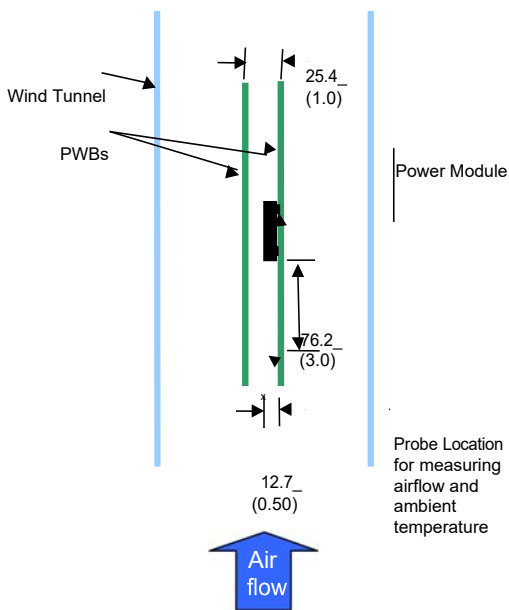
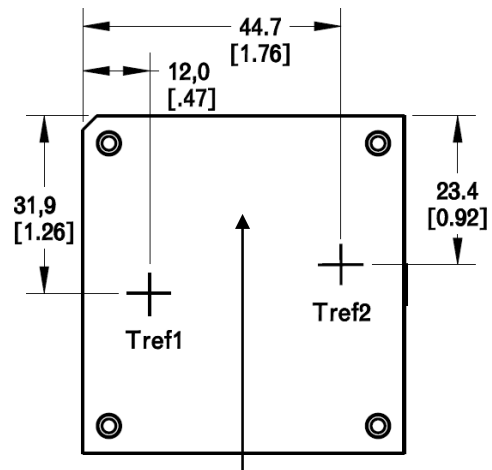

Figure 28. Thermal Test Setup.
Figure 29. Location of hot-spots of the module ( $T_{ref1}$  and  $T_{ref2}$ ).
Considerations include ambient temperature, airflow, module power dissipation, and the need for increased reliability. A reduction in the operating temperature of the module will result in an increase in reliability. The thermal data presented here is based on physical measurements taken in a wind tunnel. The test set-up is shown in Figure 28. The preferred airflow direction for the module is in Figure 29.
The thermal reference points,  $T_{ref1}$  and  $T_{ref2}$  used in the specifications are also shown in Figure 29. For reliable operation the temperatures at these points should not exceed 98°C. The output power of the module should not exceed the rated power of the module ( $V_{o,set} \times I_{o,max}$ ).